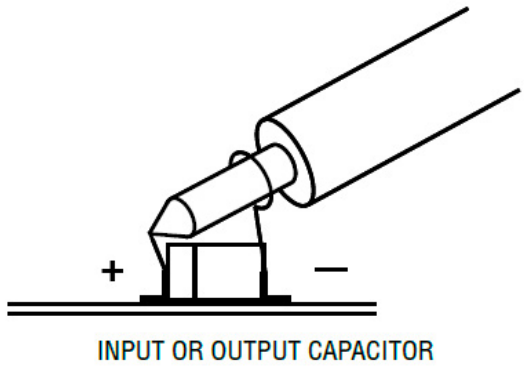

Figure 2. Proper Scope Probe Placement for Measuring Output Ripple
6. When measuring the output voltage ripple, care must be taken to avoid a long ground lead on the oscilloscope probe. Measure the output voltage ripple by touching the probe tip directly across the V_{OUT} and GND terminals. See Figure 2 for proper scope probe technique.